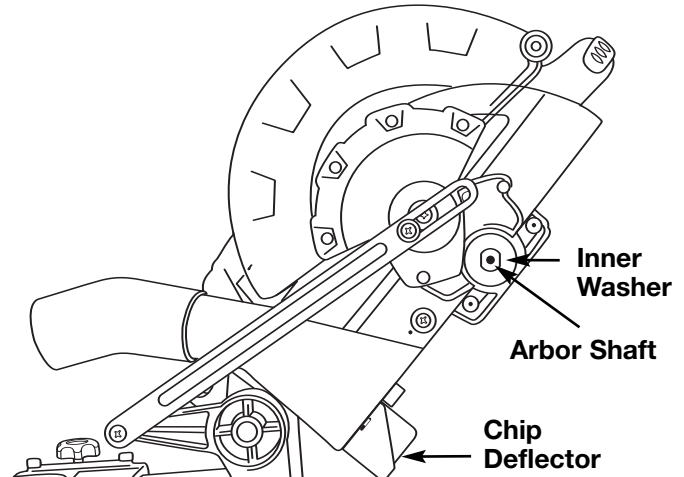

Figure 3. Blade Installation
6. To install the 10" blade, fit blade between the chip deflectors and onto arbor shaft (Figure 3). NOTE: Make sure the rotation arrow on the blade matches the clockwise rotation arrow on the lower guard.